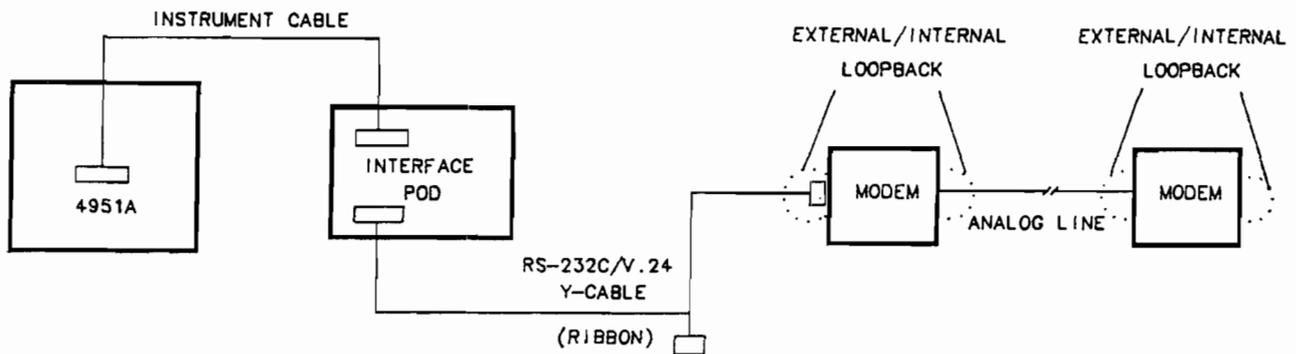

Figure 2-4. Loopback BERT Hookup
- b. Loopback. Substitute a 4951A for only one DTE and "loopback" the modem or terminal at the other end of the line. (Figure 2-4).